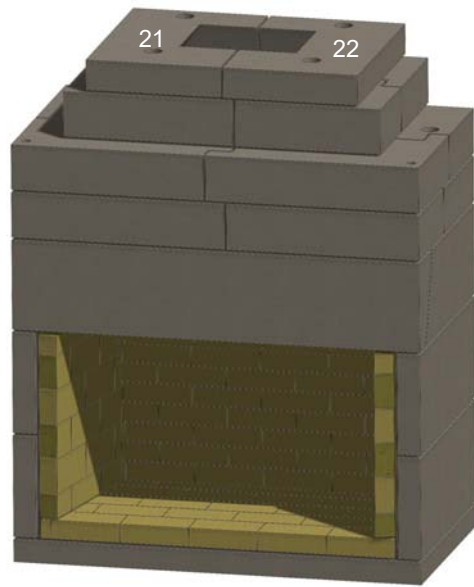

Figure 16. Throat Cap
L. Install the throat cap pieces, items 21 and 22. See Figure 16.